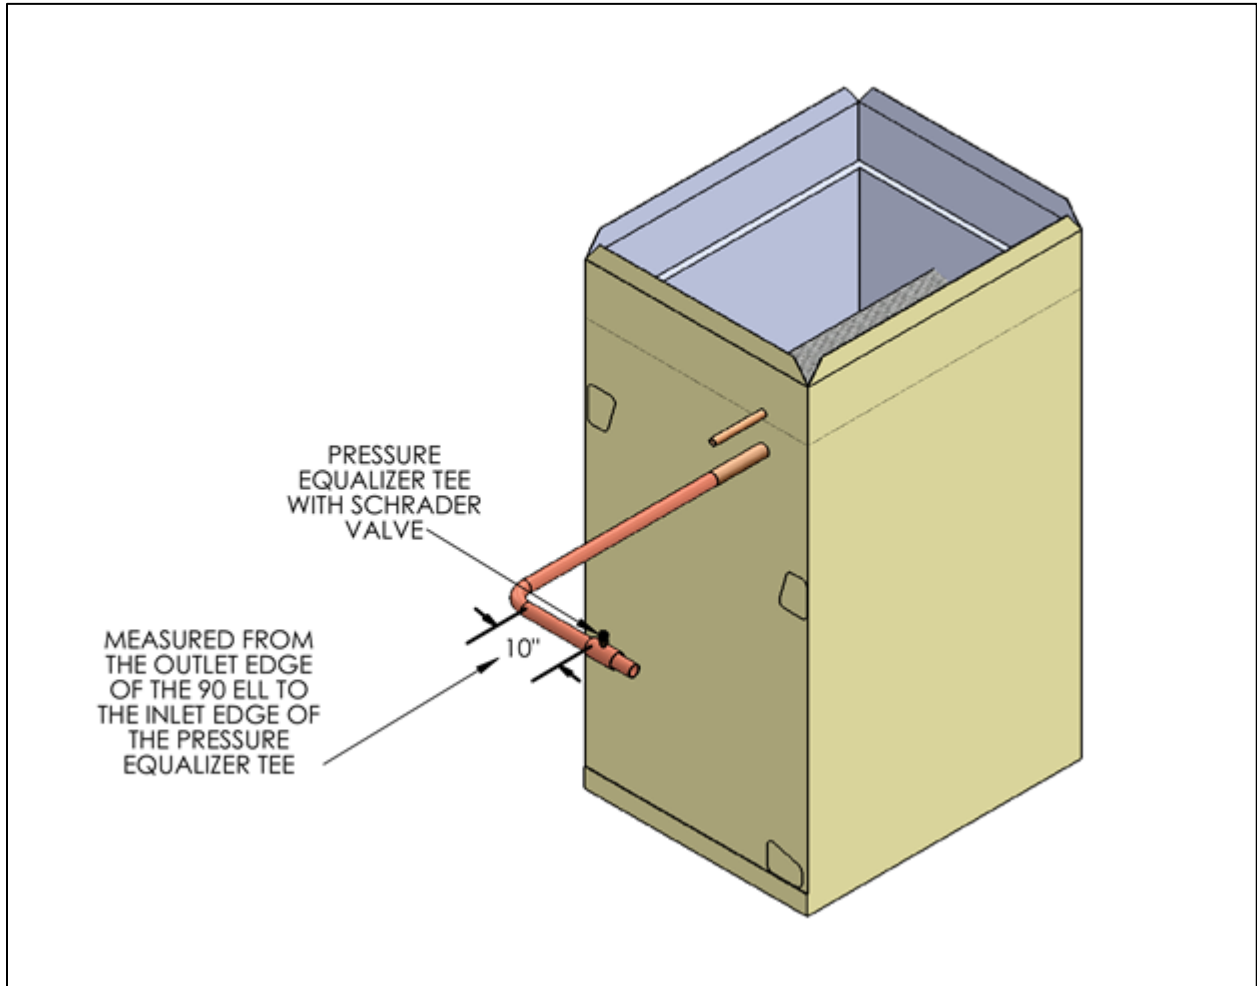

Figure 9. Positioning the Pressure Equalizer Tee
Step 2: After removing the plug from the suction stub out and cutting the valve off the liquid line, position the **Pressure Equalizer Tee** on the suction tube at least 10 inches downstream from the 90° ell as shown in Figure 9. Remove the core from Schrader valve on the Tee.